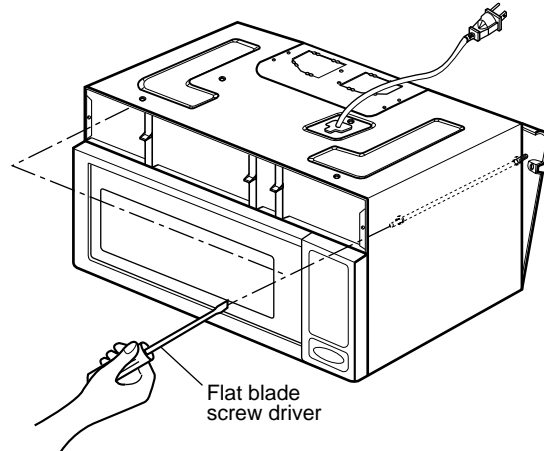

Figure 15
- (1) Remove the vent grille from the front of the oven.
- (2) Remove the mounting plate by removing two mounting rods securing itself to the unit. (See Figure 15)